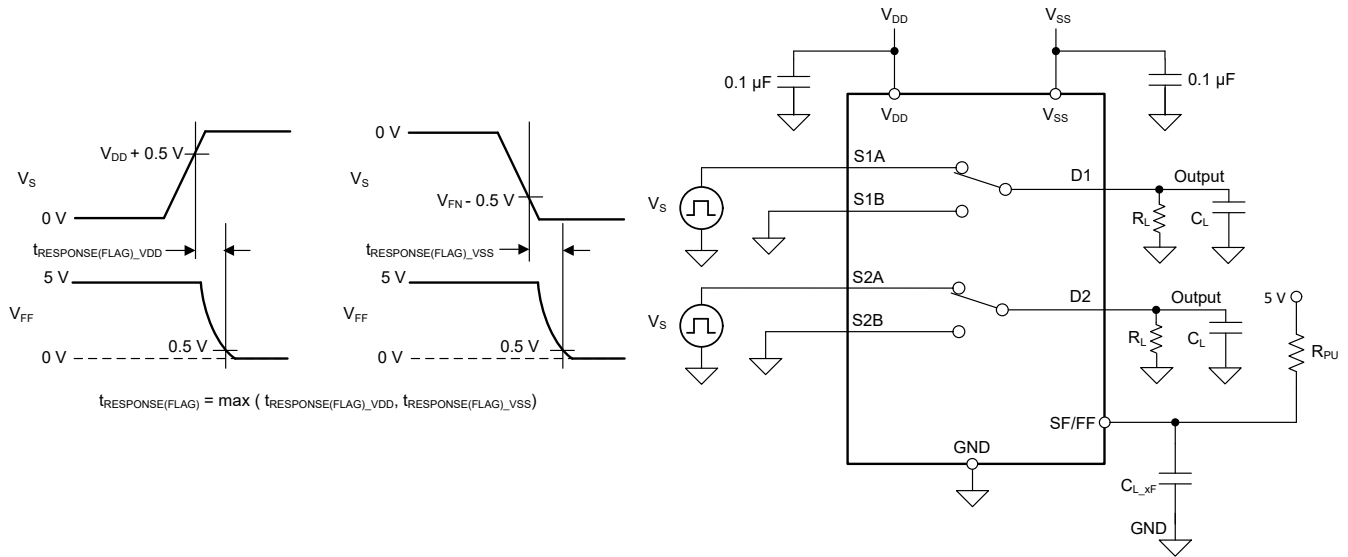

图 7-11. Fault Flag Response Time Measurement Setup
Fault flag response time ( $t_{RESPONSE(FLAG)}$ ) measures the delay between the source voltage exceeding the fault supply voltage ( $V_{DD}$  or  $V_{SS}$ ) by 0.5 V and the general fault flag (FF) pin to go below 10% of its original value. 图 7-11 shows the setup used to measure  $t_{RESPONSE(FLAG)}$ .